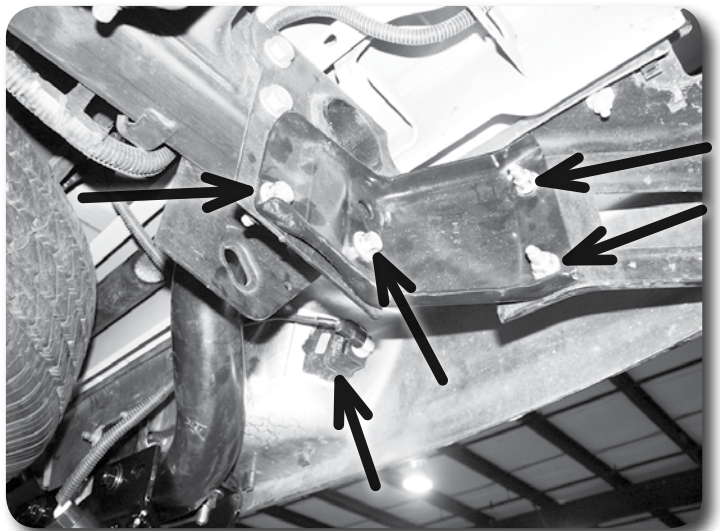

Figure 28
75. Disconnect the license plate lights from the rear bumper Figure 28.
79. Remove the four main bumper mounting nuts and remove the bumper from the vehicle **Figure 28**. Save the nuts and bolt tabs.
80. Remove the two bolts mounting each of the rear bumper brackets to the frame and remove them from the vehicle **Figure 28**. Retain hardware and discard the factory brackets.